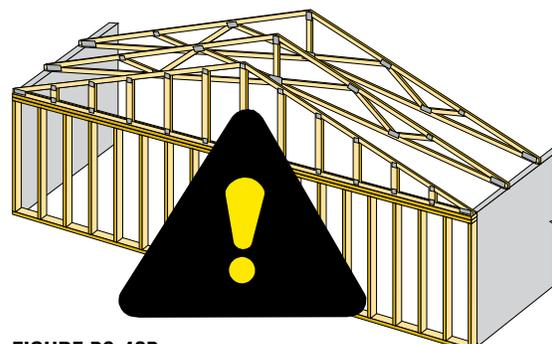

FIGURE B3-42B
- ⚠ **CAUTION** A flat Bottom Chord Gable End Frame used with adjacent Trusses that have sloped Bottom Chords (see Figure B3-42B) creates a hinge in the wall/gable interface that is below the Bottom Chord Plane Diaphragm. This condition is prohibited by some Building codes because adequate Bracing of this condition is difficult and sometimes impossible. Special end wall Bracing design considerations are required by the Building Designer if the Gable End Frame profile does not match the adjacent Trusses.